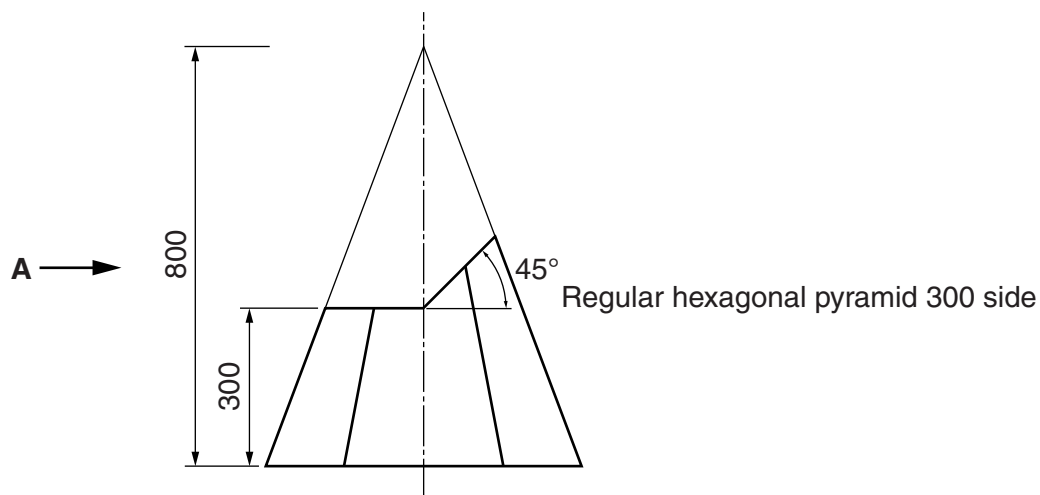

Fig. 5
- 9 Fig. 5 shows an elevation of a chair made from 10mm thick corrugated cardboard.